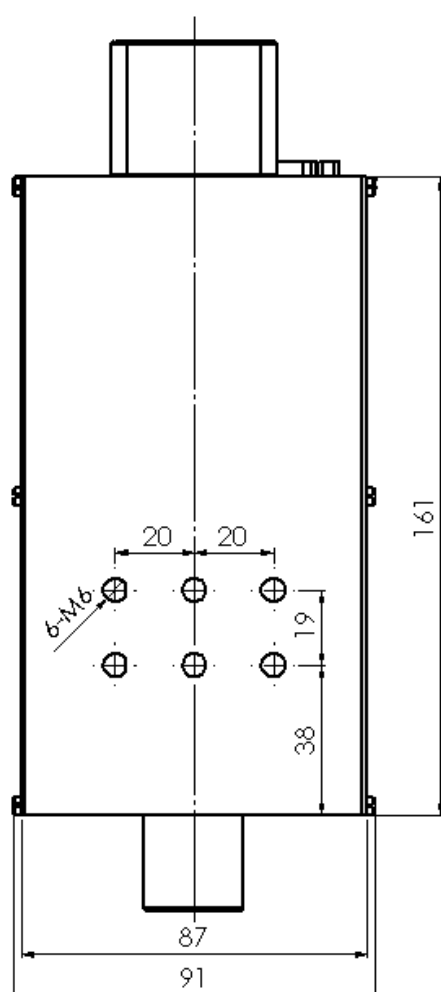

Fig. 3-4 Height Controller Back View
- For back installation view and related dimensions of height controller, please view Fig. 3-4.